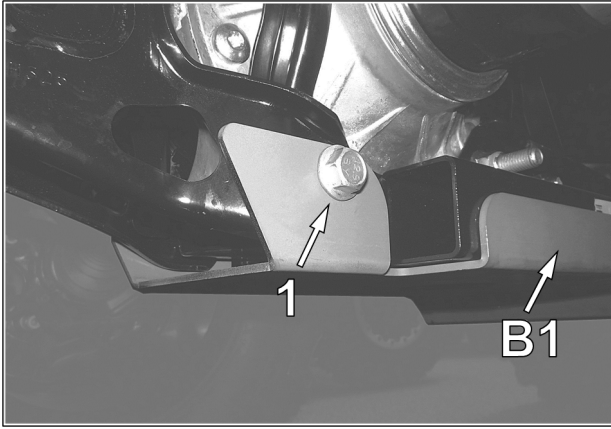

Fig. 4
- Remove the rear differential mounting bolt (A). Position the rear anchor plate (B1) under the vehicle. Align the holes at the end of the plate with the vehicle's rear differential mounting holes. Reinstall the rear differential mounting bolt (1) and use the new nut (B4) provided. Do not tighten the bolt completely. See Fig. 4